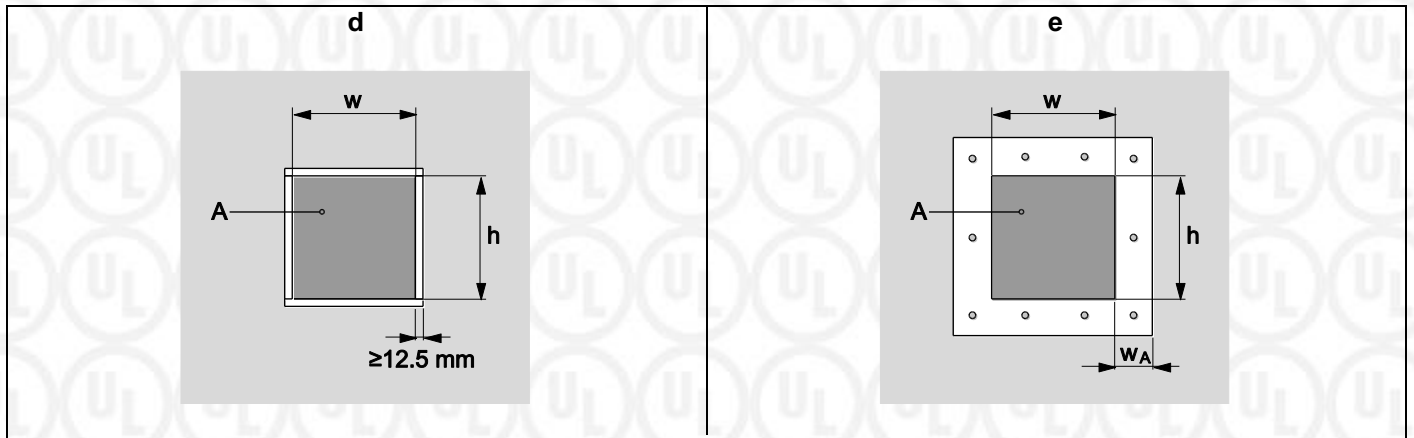

Figure 1: position of the penetration seal in walls / floors aperture framing / beading
<p>a) Services without cable supports (baskets, ladders, trays) in the area of the penetration seal</p> <ul style="list-style-type: none"> Gaps between services and Hilti Firestop Blocks CFS-BL (A) are filled with Hilti Firestop Filler CFS-FIL or CP 611A or CFS-IS (A_{1a}), depth 20 mm. 	 <p>Figure 1: penetration seal type A_{1a}</p>